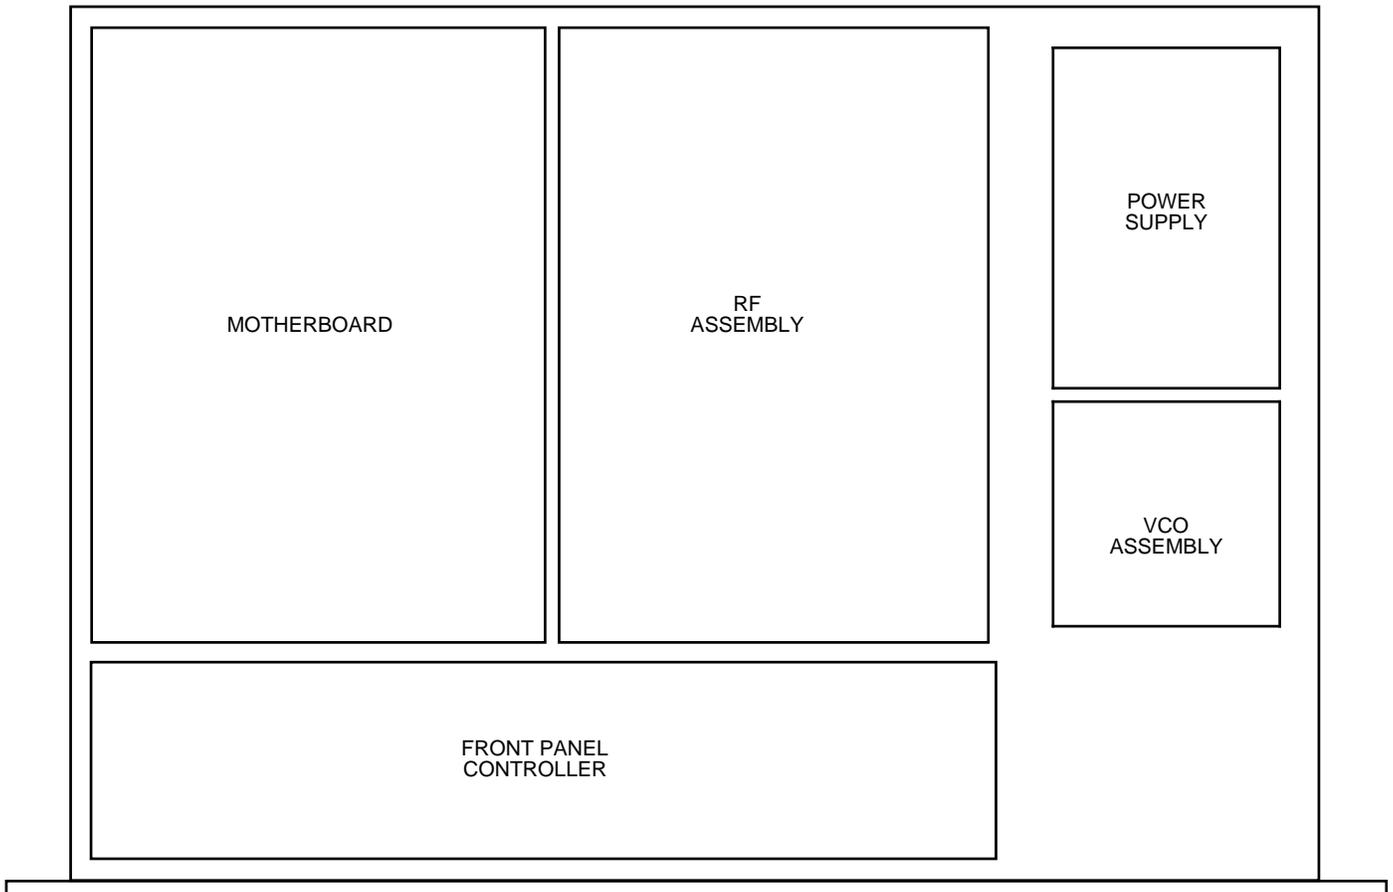

FIGURE 2.0 3116-T71 Mechanical Assembly
2.1 Mechanical - The 3116-T71 Multi-Band Block Translator consists of a controller board and RF plate assembly. A switching ± 12 , +24, +5 VDC power supply provides power for the assemblies. The 3116-T71 can be secured to a rack using the 4 holes on the front panel. Figure 2.0 shows how the 3116-T71 is assembled.